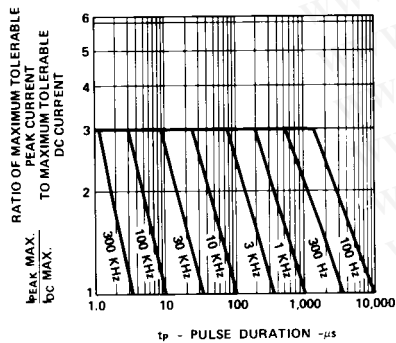

Figure 5. Maximum Tolerable Peak Current vs. Pulse Duration. (I_{DC} MAX as per MAX Ratings).
- See Figure 5 (HER/Orange), 10 (Yellow), or 15 (Green/Emerald Green) to establish pulsed operating conditions.